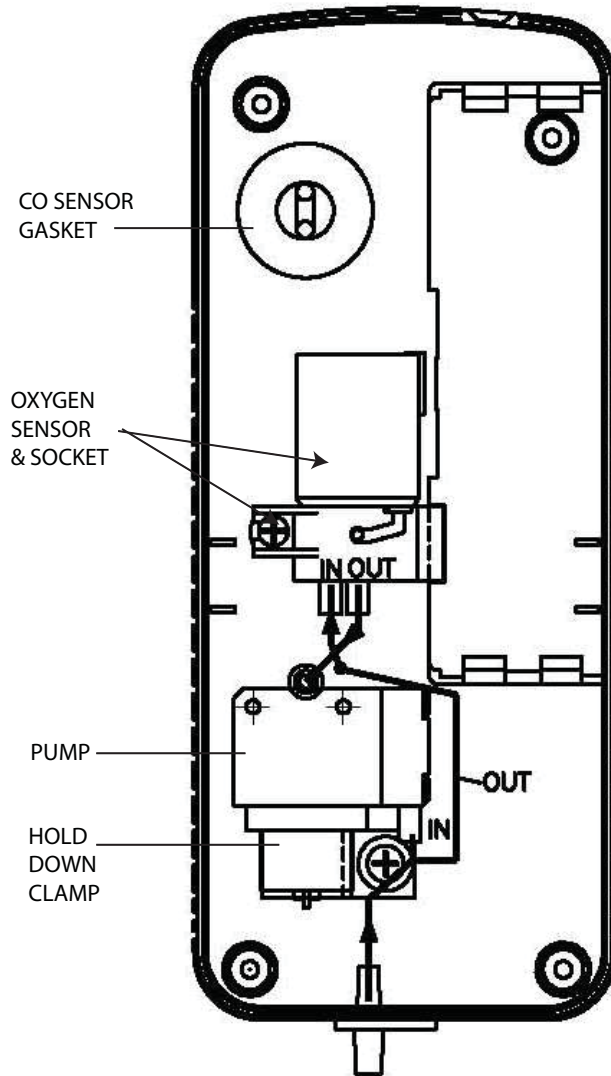

Figure 5-3. Back Case Component Locations
2. Remove the O₂ sensor's electrical connector from the circuit board. Then push down; twist counterclockwise; and then pull the O₂ sensor out of its socket (see Figure 5-3).
3. Unscrew the pump's hold down clamp and remove it from the pump (see Figure 5-3). Make note of how the pump wiring is routed.